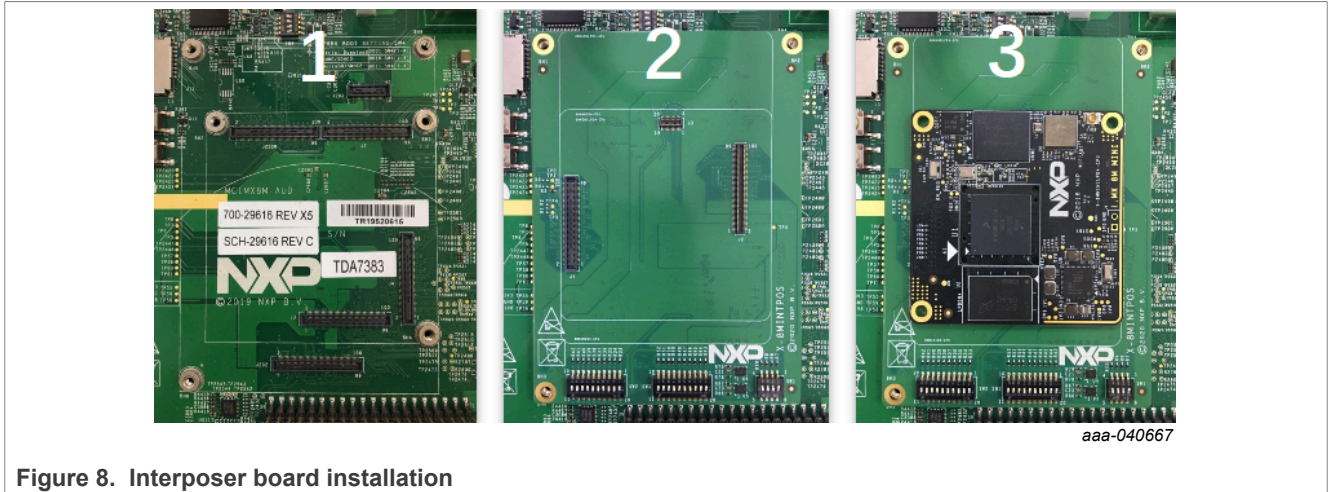

Figure 8. Interposer board installation
3. Install the SOM board. Figure 8 shows the overview of steps for the board operation.